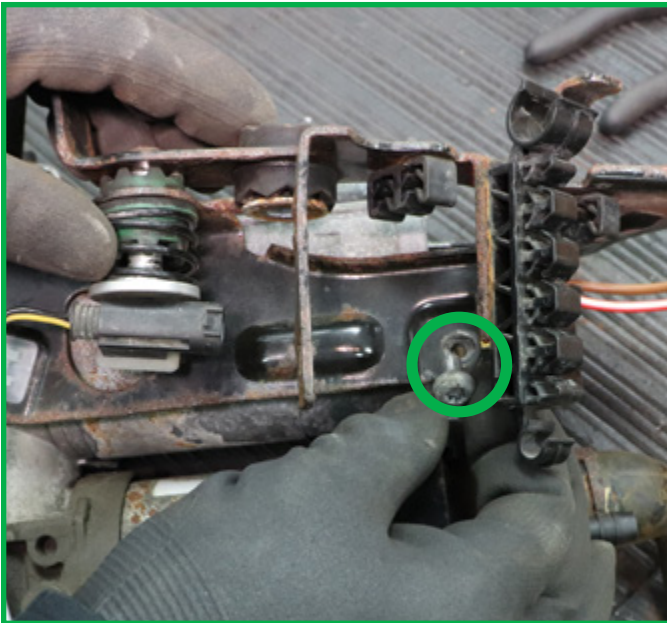

FIGURE 18
11. Remove the four (4) screws to separate the old compressor from the compressor bracket assembly. (Figures 18, 19, 20)